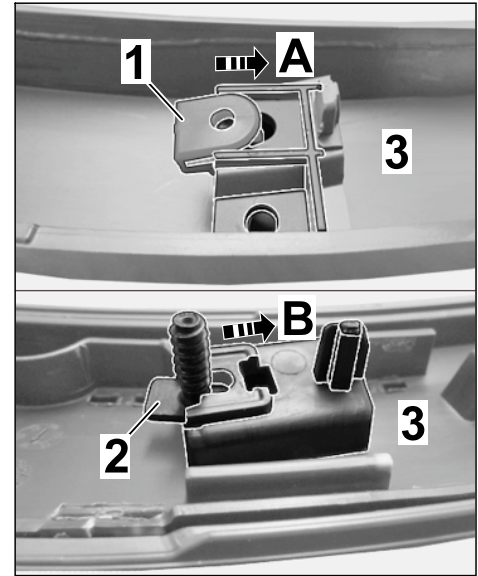

Figure 4
1.1.4 Fit clip on wheel cover (inside) (⇒ *Figure 4 -A-*).
1.1.5 Fit T-bolts on wheel cover (inside) (⇒ *Figure 4 -B-*).